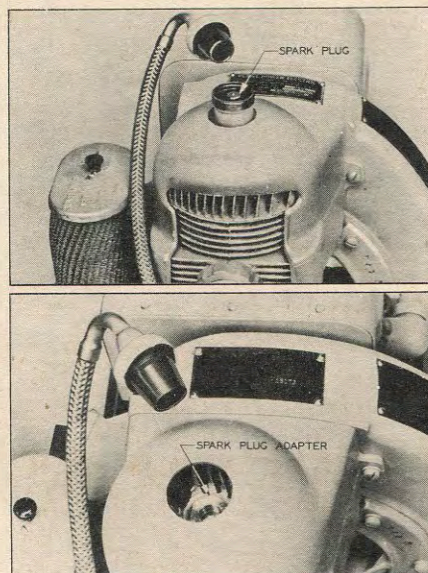

Figure 5 - Spark Plug and Adapter
a. Spark Plug and Adapter. (See figure 5.)
(1) Inspection.